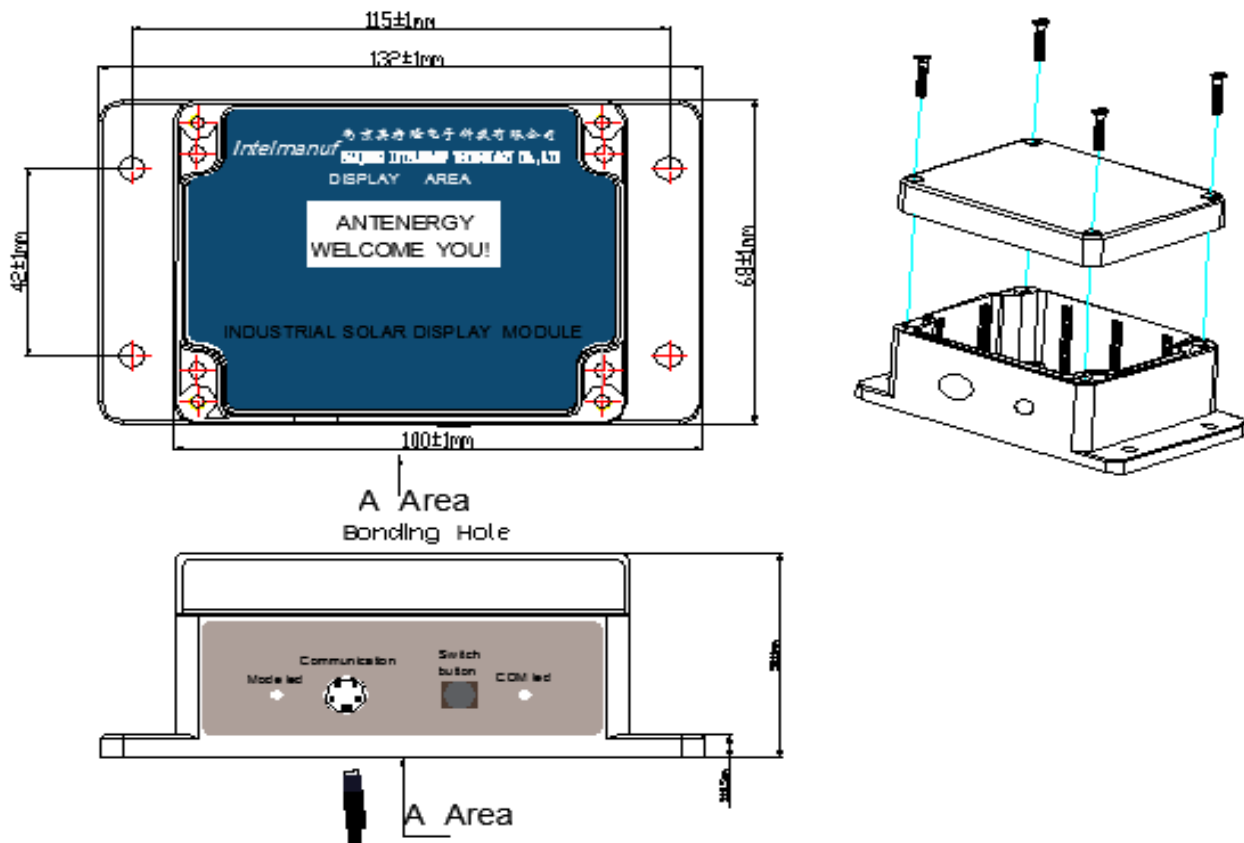

Figure 3
C. External display module (see Figure 3)